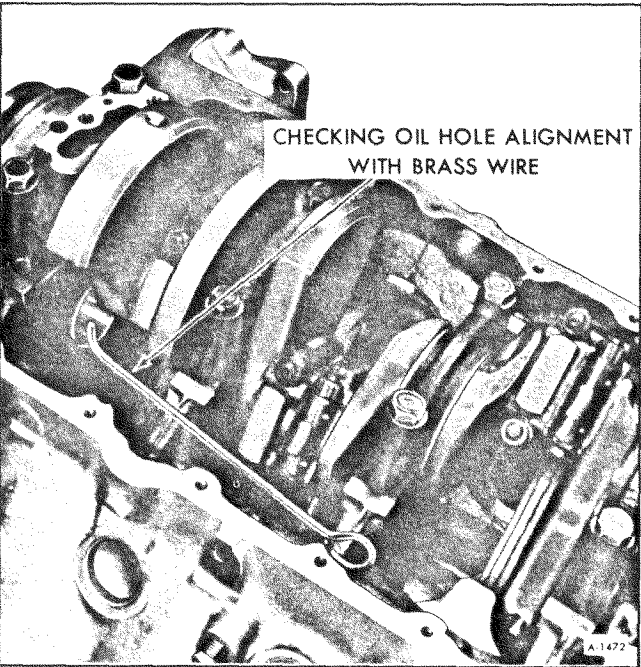

Figure 61—Checking Oil Hole Alignment
- 2. Drive No. 5 camshaft bearing into place and check oil hole alignment as shown in Figure 61.